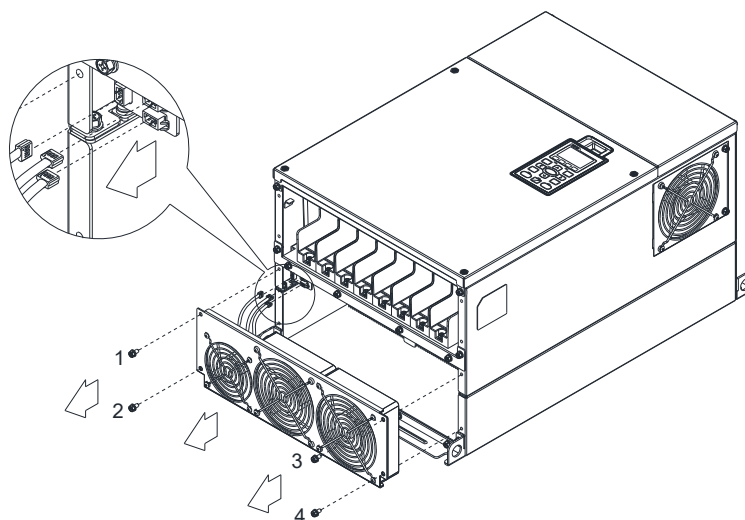

Figure 2
1. Loosen screw 1–4 (figure 2) and disconnect fan power and pull out the fan. (As shown in the enlarged picture 3) Screw 1–4 Torque: 24–26 kg-cm / [20.8–22.6 lb-in.] / [2.4–2.5 Nm]